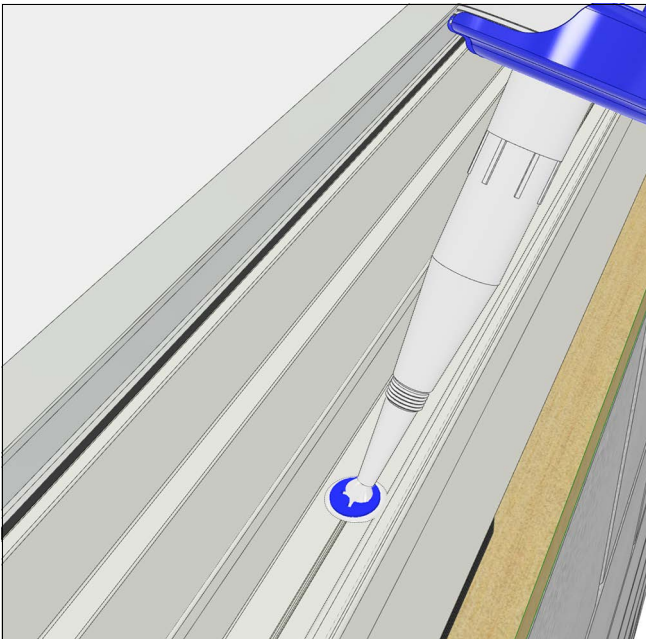

Figure 16
8. Then, seal over the screw heads of the fasteners with additional silicone. See Figure 16.